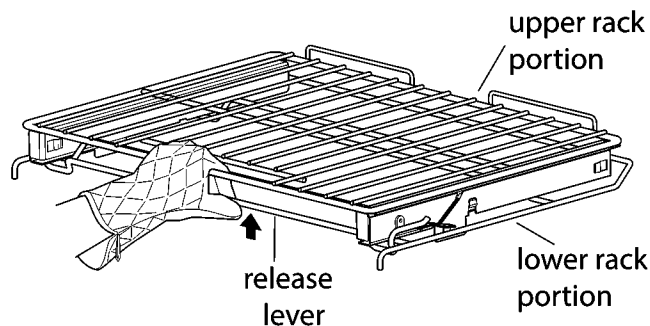

Figure 19: Luxury-Glide™ extendable oven rack
1. Using one hand, reach through handle opening and lift up on the release lever located across the lower front of the rack as shown in Figure 19.